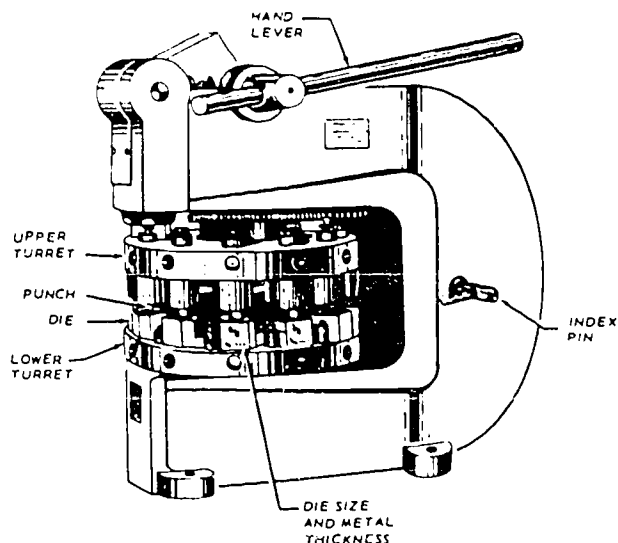

Figure 2-10. Rotary punch.
**Rotary Punch.** This large punch is used in the sheet metal shop to punch holes in metal parts such as baffle plates and tops for drain tables. It can also be used for cutting radii in corners and for making washers. The rotary punch shown in figure 2-10, is found in many Air Force sheet metal shops. It is composed of two cylindrical turrets, one mounted over the other and supported by the frame. Both turrets are synchronized so that they rotate together, and the index pins maintain correct alignment at all times. To release the index pins from their locking position, the lever, which is located on the right side of the machine, is rotated 180°. This action will withdraw the index pins from the tapered holes and allow you to turn the turrets to any size punch desired.
Preventive maintenance for the rotary punch consists mainly of keeping it cleaned, adequately lubricated, and properly adjusted. At intervals specified on the maintenance record folder, the rotary punch, such as illustrated in figure 2-10, is inspected to see that the index pin works freely and locks the upper and lower turrets easily. If necessary, clean and oil the index pin and aligning holes in the turrets. Next, inspect each punch and die to see if it lowers and raises freely when the hand lever is pulled forward. Cleaning and oiling are necessary for any punch that sticks. To thoroughly clean this piece of equipment, you must remove any sticking punch. Then clean the punch and its sleeve, and lightly coat them with oil before reassembly. Next, inspect the hand lever and connecting linkage for cleanliness and freedom of operation; if necessary, clean and oil the moving parts. Now, inspect each punch for proper alignment with its corresponding die by punching several thicknesses of stiff paper. Finally, wipe off all excess oil, clean all painted surfaces with a dry rag or a rag moistened with soap and water, and wipe all unpainted surfaces with a slightly oiled rag. The final step is to make the appropriate entries in the maintenance record folder.
4. Can the top turret of the rotary punch, shown in figure 2-10, be set to punch through a die that is too large? Why?